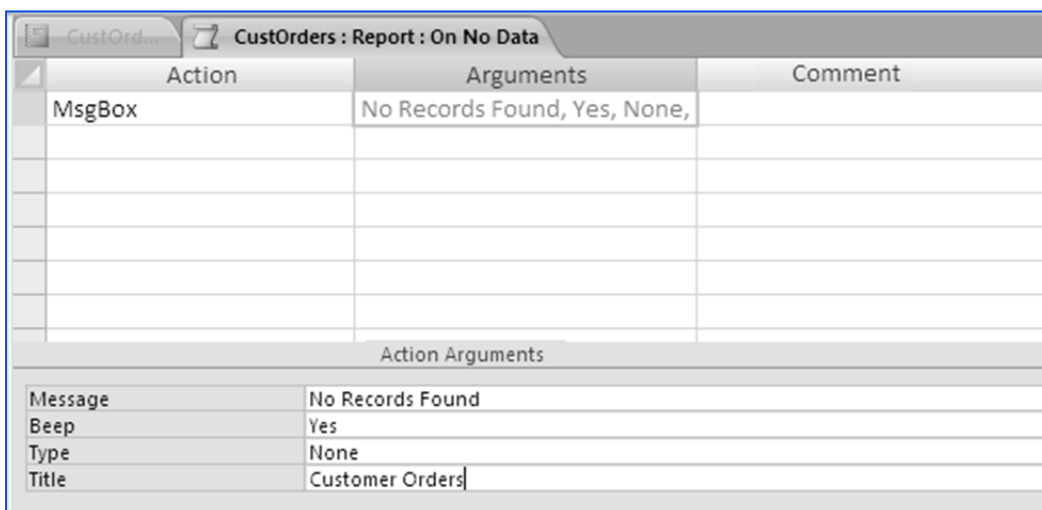

Fig. 2.5.10. Specify MsgBox Action
4. In the *Macro Builder* window, select *Action MsgBox* and specify the value of message *Arguments* as *No Records Found*, *Title* as *Customers Orders*, as indicated in Fig. 2.5.10.